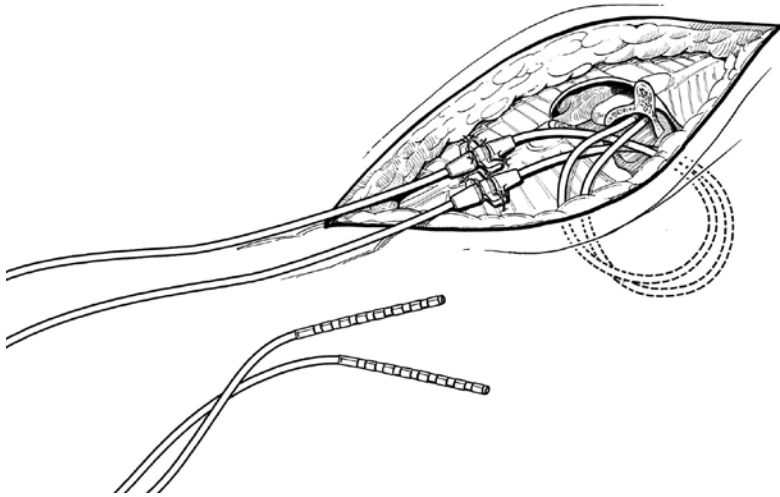

FIGURE 36
- 5 Secure the anchors in place by suturing the anchors to the supraspinous ligament or deep fascia (FIGURE 36).